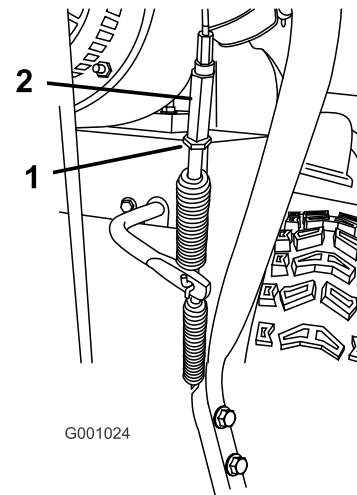

Figure 46
5. Loosen the jam nut (Figure 46).
6. Loosen or tighten the turnbuckle that adjusts the tension on the cable (Figure 46).